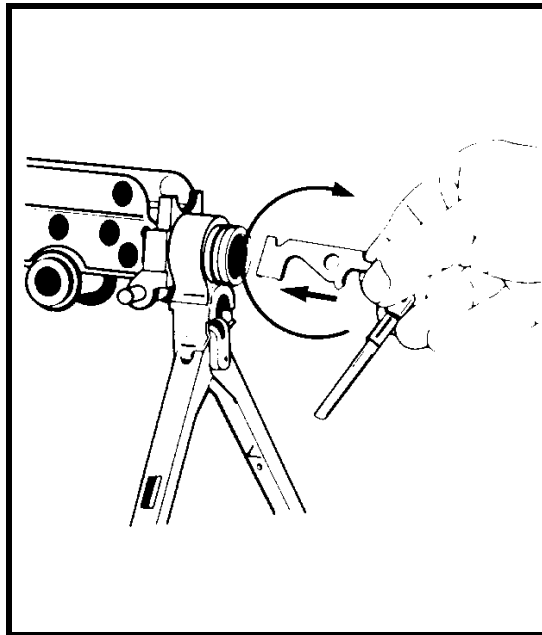

Figure 2-44 Cylinder Inside Front
- (1) Clean the cannellure and gas escape holes at the front of the cylinder with the scraper.
- (2) To clean the front of the cylinder insert the scraper into the cylinder, apply pressure to the handle, and rotate the tool. Repeat as necessary until all fouling has been removed (see Figures 2-44 and 2-45).
- (3) Clean the gas cylinder with the lubricated brush fitted to the cleaning rod. Dry out with a piece of flannelette wrapped round the brush.
- (4) Clean the rest of the body, especially the guide grooves and feed mechanism. Lubricate the parts and assemble the gun.